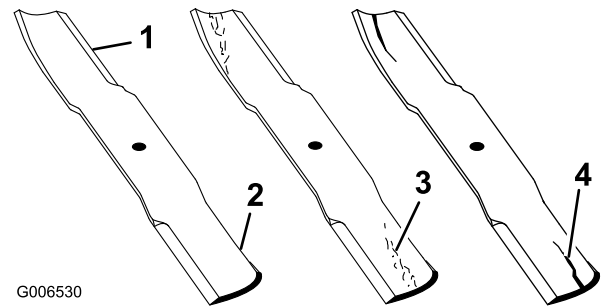

Figure 59
1. Inspect the cutting edges (Figure 59). If the edges are not sharp or have nicks, remove and sharpen the blades. Refer to Sharpening the Blades.
2. Inspect the blades, especially the curved area (Figure 59). If you notice any damage, wear, or a slot forming in this area (Figure 59), immediately install a new blade.